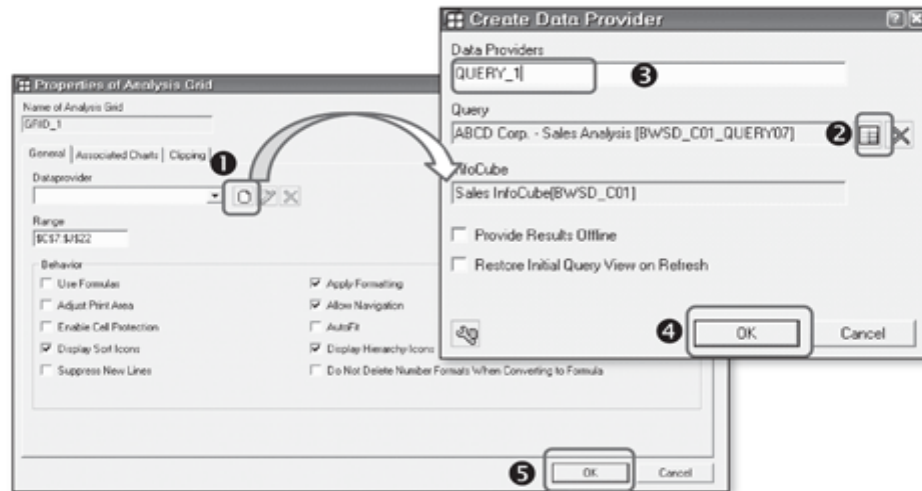

Figure 10.30 Set Properties of an Analysis Grid
4. Double-click on the design item to call the properties dialog as shown in Figure 10.30. You must assign a data provider to the analysis grid, which acts as a source of data to the design item. Create a new data provider by clicking the button shown in ① of Figure 10.30. When you click on the Create button, another pop-up appears. Based on our example scenario, we assign the Sales Analysis query to the data provider using button ② of Figure 10.30. Finally, give a name to the data provider (③), and click OK (④) to return to the properties screen. After the assignment of the data provider is complete, you can also define some additional settings for the analysis grid by selecting appropriate checkboxes, as shown in Figure 10.30. Finally, click on the OK button (⑤) to return to the workbook.